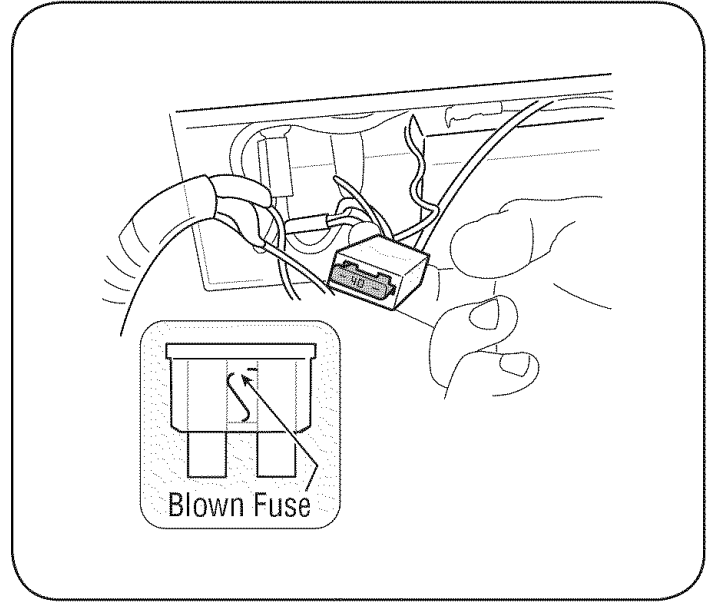

Figure 23
2. Remove fuse from socket and inspect as shown in Figure 23. If it is burned out, replace with standard automotive 40 ampere fuse.